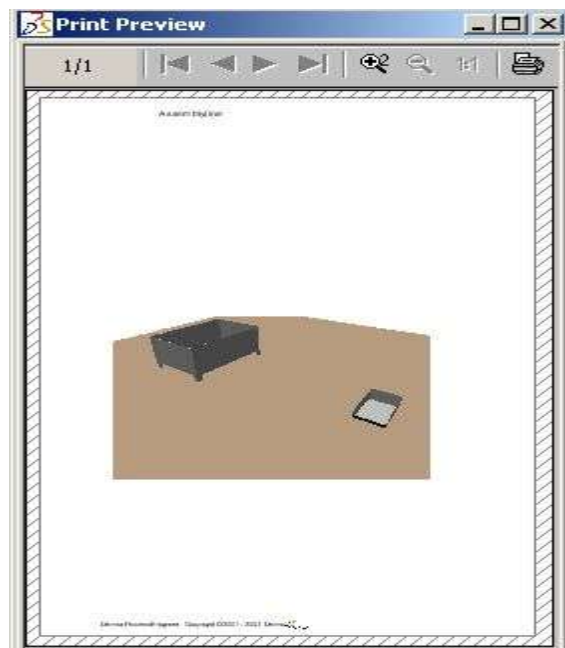

Figure 33: Example - Graphics for Selected Resources
- 5) The print preview displays the graphics accordingly. *Please refer to the Figure 33.*